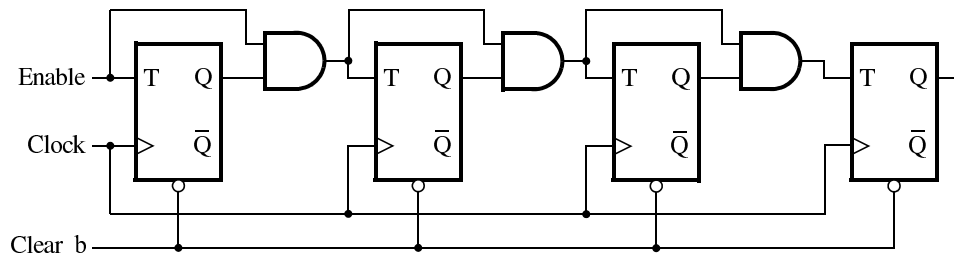

Figure 1: A 4-bit counter.
Consider the circuit in Figure 1. It is a 4-bit synchronous counter (text Section 5.9.2) that uses four T-type flip-flops (text Section 5.5). The counter increments its value on each positive edge of the clock if the *Enable* signal is asserted. The counter is reset to 0 by setting the *Clear_b* signal low – it is an active-low asynchronous clear. You are to implement an 8-bit counter of this type.
1. Draw the schematic for an 8-bit counter using the same structure as shown in Figure 1.
7. Use the Quartus RTL Viewer to see how the Quartus software synthesized your circuit. What are the differences in comparison with Figure 1?